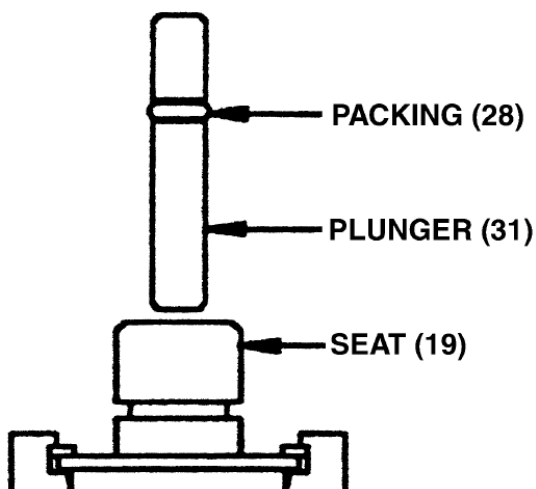

Figure 4. Installing the Servo Valve Plunger
- N. Install plunger (31), long end first, in seat (19) as shown in Figure 4.